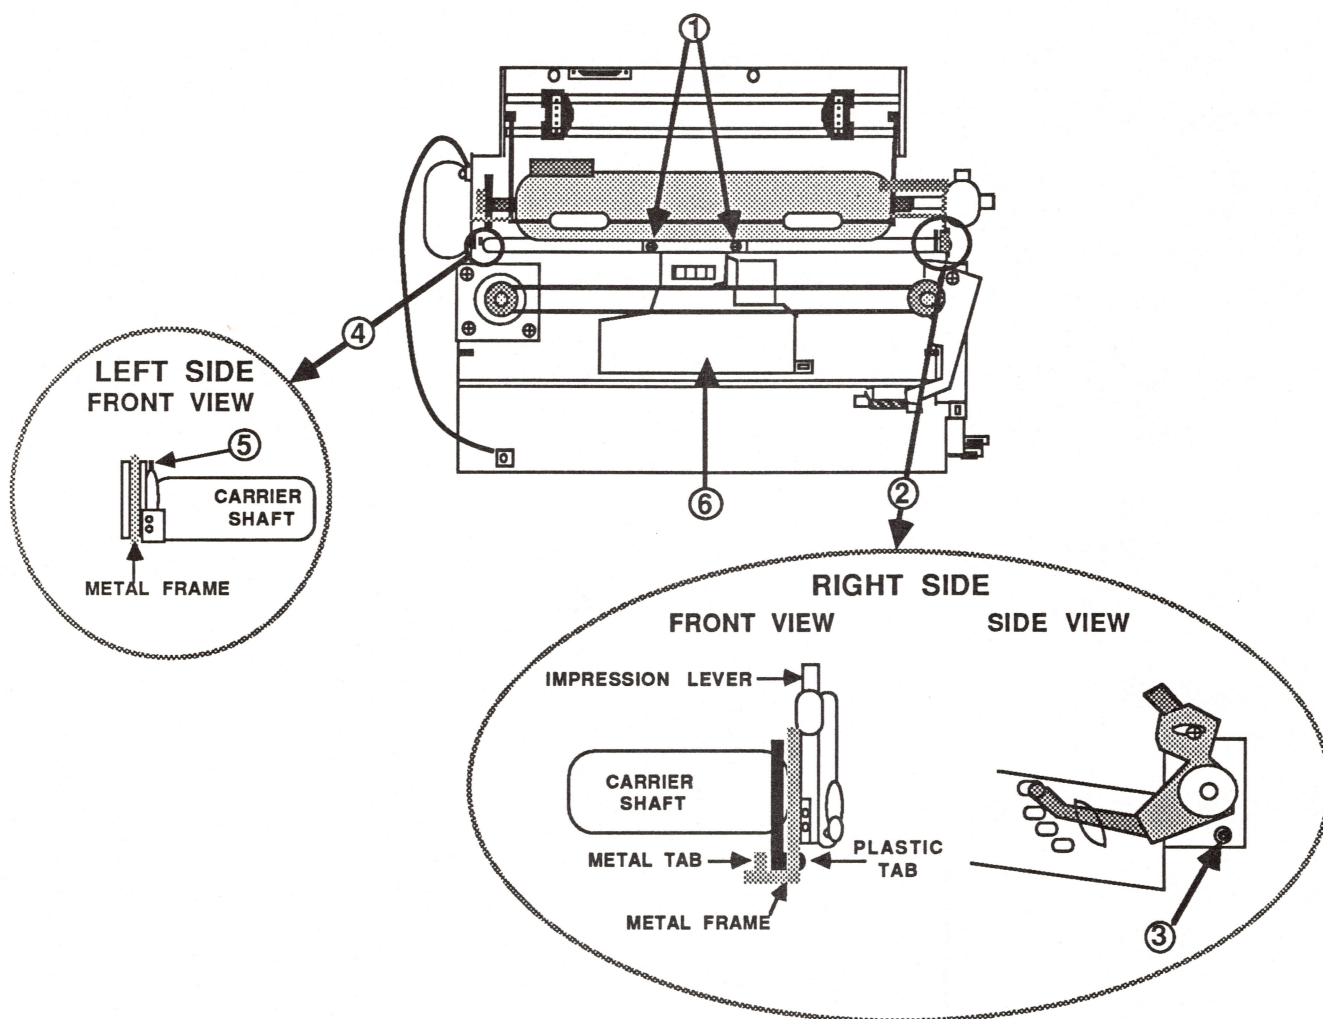

FIGURE 30
6. Remove the two screws holding the clear plastic paper guide (see Figure 30, #1).
7. Look at Figure 30, #2, for the connection of the right side of the carrier shaft to the frame. Pry forward the metal tab which is part of the frame.
8. Gently insert a jeweler's flathead screwdriver into the hole in the frame containing the tab (see Figure 30, #3). Gently push the tab backwards and lift the right side of the carrier shaft free.
9. Look at Figure 30, #4, for the connection of the left side of the carrier shaft to the frame.
10. Gently push back the metal tab shown in Figure 30, #5, and slide the carrier shaft to the right until it is free.
11. Pull the back of the carrier assembly (see Figure 30, #6) towards the front of the machine to release the tabs holding the assembly in position and lift up the carrier assembly and the carrier shaft.